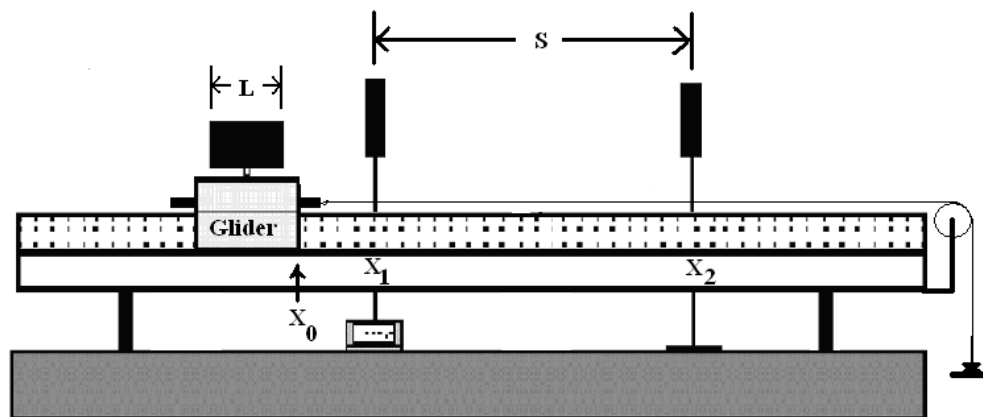

Figure 4.3: Various lengths used throughout this experiment
2. Measure the length (L) of the fin on top of the glider and record it along with its uncertainty in your spreadsheet. See Figure 4.3.
10. Calculate the magnitude of the displacement between the two timers using $S = |X_2 - X_1|$ and record this in your spreadsheet. S must be at least 20 cm. See Figure 4.3. Also, make sure that the hanging mass does **not** touch the ground before the cart moves past x_2 .